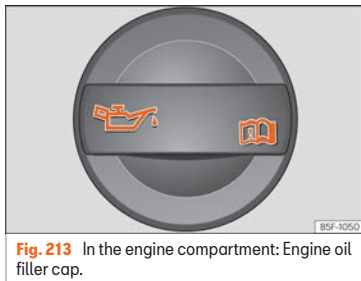

Fig. 213 In the engine compartment: Engine oil filler cap.
- Unscrew cap from engine oil filler opening » **Fig. 213**.